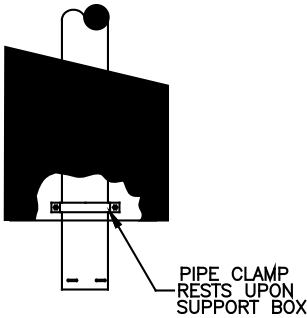

Figure 33
8. Place the Support Clamp, included with Support Box, loosely around Pipe Sections running through hole in Support Box (*Figure 33*).
10. After all PelletVent Pro Pipe Sections and components are assembled and connected down to the appliance seal and secure the Appliance Adapter to stove. Using a level, make slight adjustments in the position of the appliance until the pipe is truly vertical. Tighten the bolts in the Support Clamp (*Figure 33*).